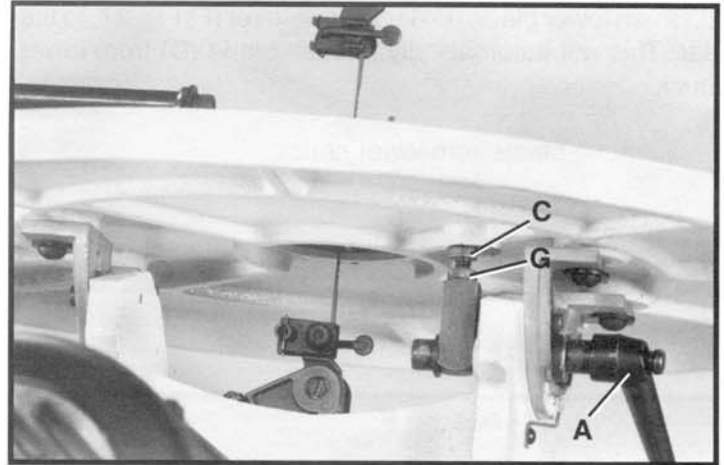

Fig. 31
3. If the table is not at 90 degrees to the blade, loosen table lock handle (A) Fig. 31, and lock nut (G).
4. Thread screw (C) Fig. 31, in or out until blade is square to table. Then tighten table lock handle (A) and lock nut (G).